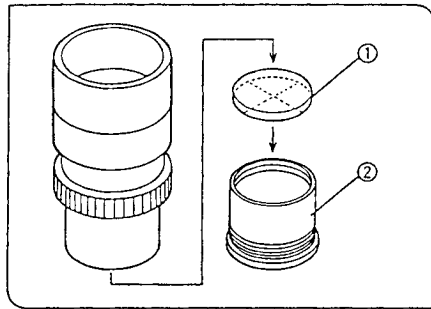

Fig. 50
**4 Using Eyepiece Micrometers** (Fig. 50)
Use 24 mm diam. X 1.5 mm micrometer discs. Following Fig. 50, unscrew the micrometer frame (2) from the eyepiece and place a micrometer disc (1) into the frame. The engraving on the micrometer disc (1) should face downward into the micrometer frame (2). Screw the micrometer frame into the eyepiece as it was before.